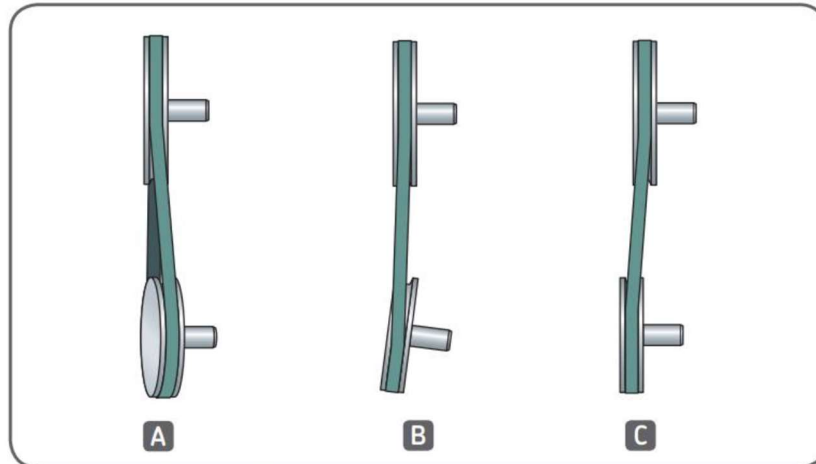

Fig 1 Different types of pulley misalignment
5. Holding the tensiometer, press the opposing end of the tensiometer to the midpoint of the belt span as indicated in Figure 1. Press down on the tensiometer (deflecting the belt) until the large “O” ring is even with the original location of the belt. For a single belt drive, the tensiometer should be depressed until the large “O” ring is lined up with the bottom of the straight edge placed on the outside rims of the two sheaves. For a multiple belt drive, depress the tensiometer until the large “O” ring is even with the top of the next belt. Take a reading from each belt for an average.